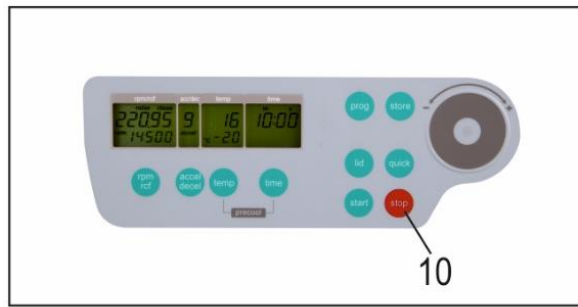

Figure 34
With the "stop" key (10), the run time can be interrupted, at any time, (see Figure 34). After pressing the key, the centrifuge decelerates with the respective pre-selected intensity, down to a standstill.